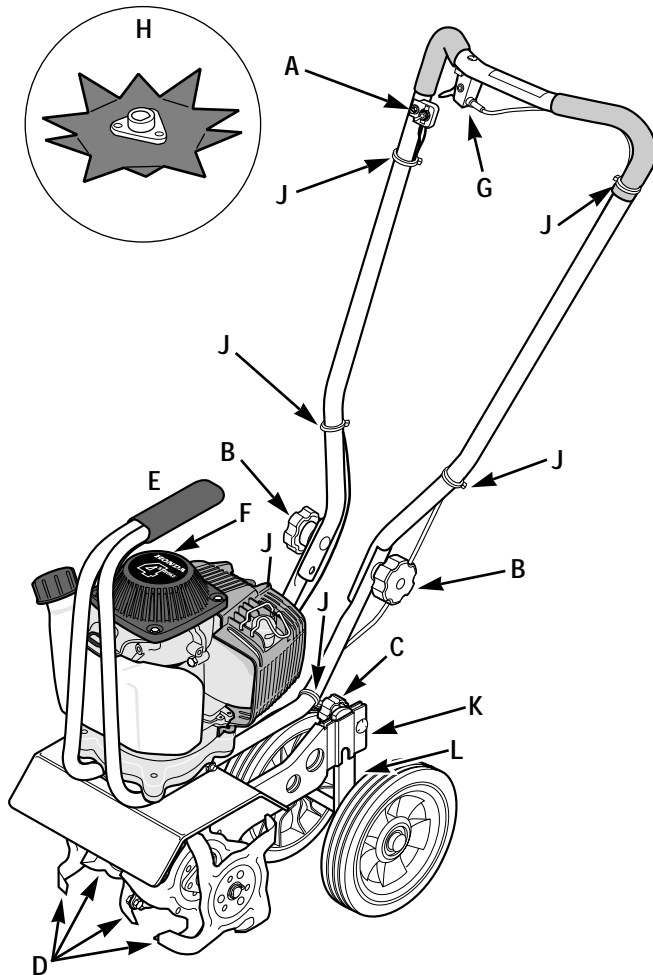

Figure 2: Features and controls.
### Handlebar Height Adjustment Knob (B, Figure 2)
### Tilling Depth Adjustment Knob (C, Figure 2)
### Adjustable Tine Patterns (D, Figure 2)
### Carrying Handle (E, Figure 2)
### Edger Attachment (H, Figure 2)
### Engine On/Off Switch (A, Figure 2)
### Engine Recoil Start Rope (F, Figure 2)
### Throttle/Tines Control Lever (G, Figure 2)
4. Check that the six plastic cable ties (J, Figure 2) are positioned as shown, and that the cables are not kinked or jammed.
To stop the engine, move the On/Off Switch (A, Figure 2) to the OFF position.
**NOTE:** Do not squeeze Engine Throttle/Tines Control Lever (G, Figure 2) when starting engine.
1. Move On/Off Switch (A, Figure 2) to ON position.